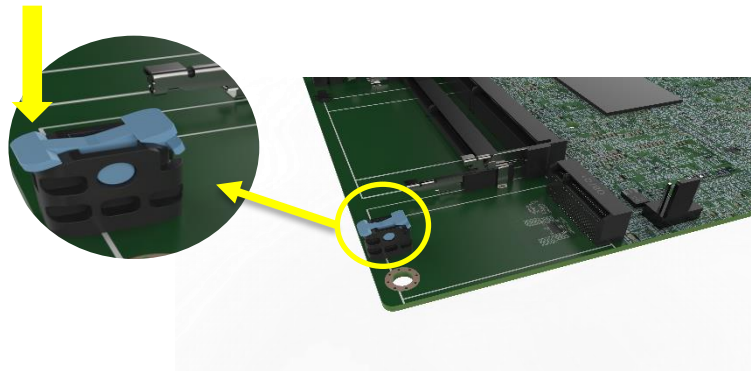

Figure 3-11: Press the Retainer
Step 1: Press the retainer down as shown below. (See Figure 3-11)
Step 5: If you want to remove the M.2 module, you should press the retainer down as described in Step 1 to release the M.2 module. (See **Figure 3-11**)